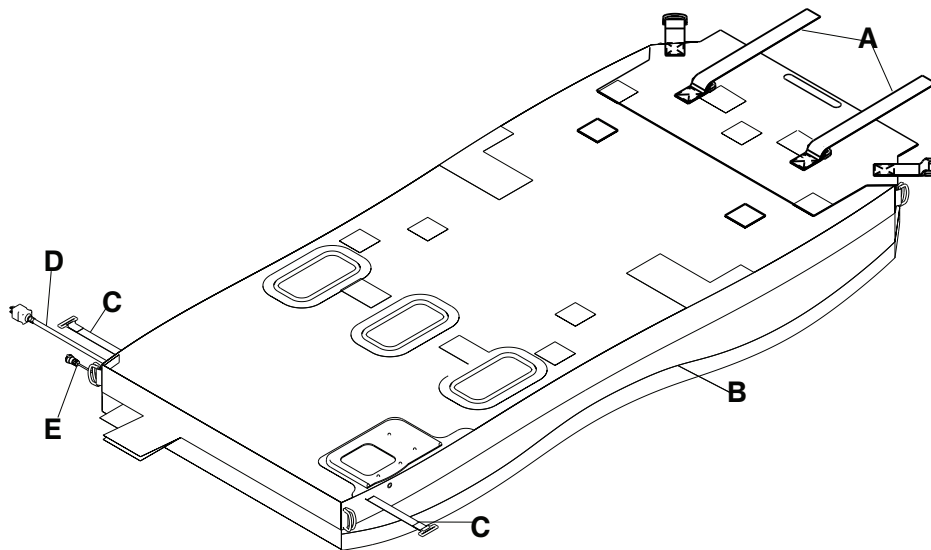

Figure 3 – Bottom support surface cover
2. Unplug the support surface power cord (D) (Figure 3).
3. Disconnect the support surface integration cable (E) (Figure 3) from the bed.
8. Loosen and remove the retainer straps (A) holding the support surface to the Fowler.
10. Using two operators, turn the support surface over (Figure 3).
14. Grasp the zipper pull tool or equivalent and pull to unzip the bottom cover from the top cover (B) (Figure 3).
15. Feed the CPR release straps (C), power cord (D), and integration cable (E) through the bottom cover (Figure 3).